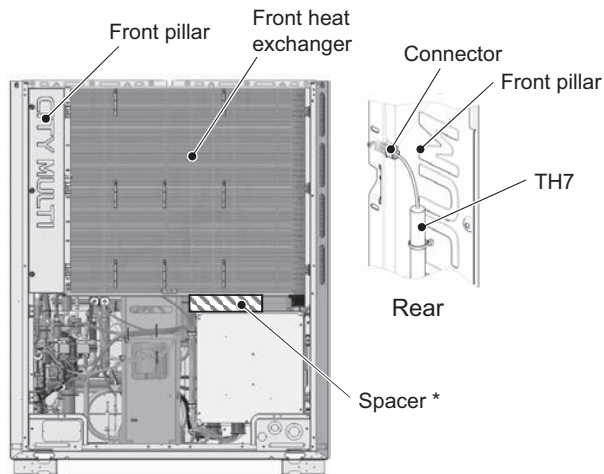

Figure 9
- (12) Remove the front pillar by unscrewing the 7 screws. (See Figure 9.)
- (13) Disconnect the TH7 sensor holder from the front pillar. (See Figure 9 Rear.)